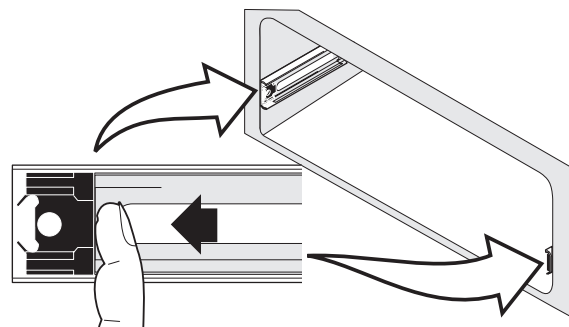

Figure 2
- Pull the plastic slider to the front of the glide slots on each side of the drawer cavity (See Figure 2).